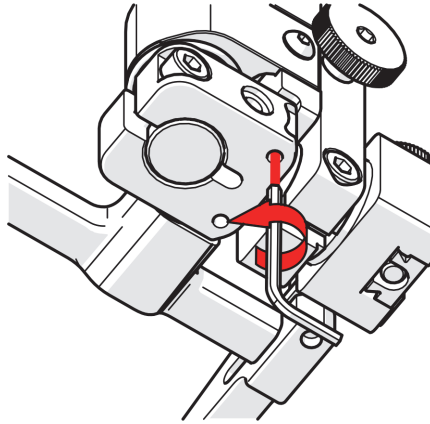

Figure 2-71 Lower 90° stop post
7. Locate the recessed M3 screw on the bottom of the probe holder. Unscrew the stop post using a 1.5 mm hex wrench until it has cleared all obstructions. Do not remove the stop post (see Figure 2-71 on page 104).